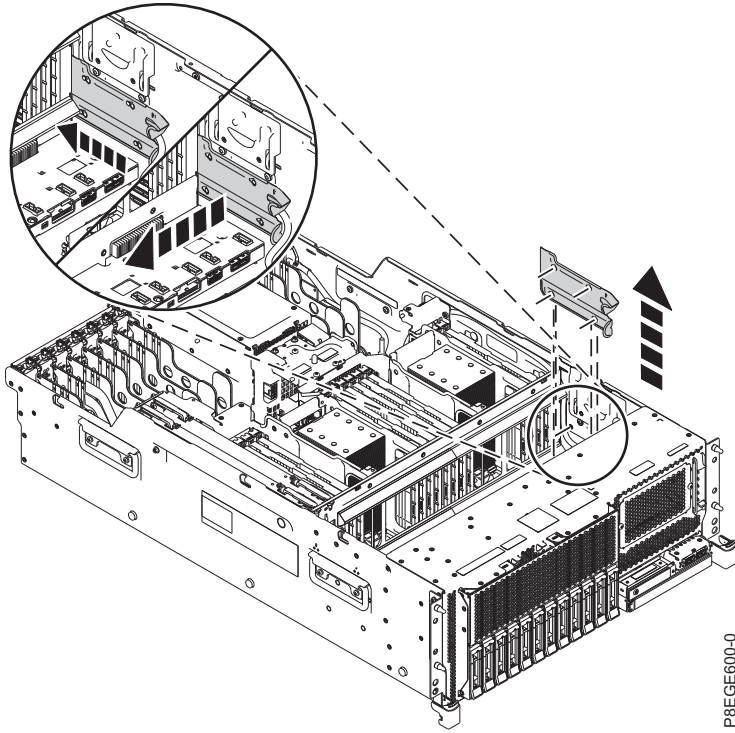

Figure 6. Removing the USB cable cover
13. Remove the USB cable cover on the side of the system chassis. Grasp the top handle of the cover and pull out and away from the side of the chassis. Push the cover toward the rear of the system until the slots on the cover clear the pins on the side of the chassis, then remove the cover. See Figure 6 on page 10.